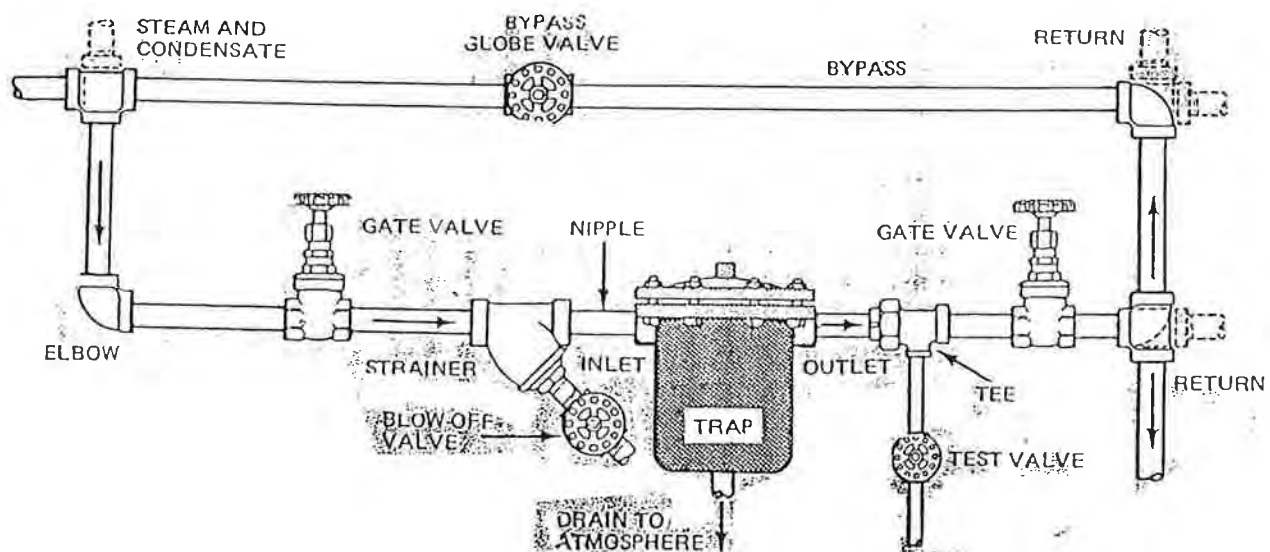

Fig. 1-1. Valves and piping in a low-pressure steam line.
1.11 Before looking at more involved networks of pipes, let's first consider one section of a typical system. Figure 1-1 shows a common arrangement of pipes, valves, and fittings in a low-pressure steam line. This part of the system happens to be built around the steam trap (to be defined later). The valves control the flow of steam through the piping. The fittings connect the sections of pipe. In an actual installation, the length of piping between valves is much greater, depending on the application and its requirements.
1.13 To trace the steam line, begin at the upper-left corner of Fig. 1-1, where you will see a fitting that connects three pipes. (The dotted lines show where a fourth pipe could be added, if necessary.) This is where the steam and condensate enter this section of the system.
1.17 When the trap in a functional system similar to that in Fig. 1-1 must be disassembled for inspection or repairs, the globe valve is first opened to let the steam bypass the trap. Then the gate valves are closed to block passage through the trap.
1.19 The system-within-a-system represented by Fig. 1-1 shows one part of a more extensive piping system that carries steam from a boiler to a steam turbine, which generates electricity. The boiler and the turbine themselves are not parts of the piping system. The fittings, valves, and trap are, however, necessary to the operation of the system.
1.32 Well-designed piping systems have various features to minimize maintenance and wear-and-tear. One such protective feature is the blow-off valve which you saw in the steam line in Fig. 1-1. The valve can be opened to blow out any foreign material in the line.
1.37 Remember that the purpose of the steam trap shown in Fig. 1-1 was to collect condensed hot water while keeping the steam in the system. Other components include devices to regulate pressure. Some are protective devices such as valves that automatically open to vent fluid out of the pipe when the pressure in the lines gets too high. In lines carrying liquids you will often see relief valves, preset to open at a given pressure. When they open, liquid flows through the valve and specially provided piping to relieve the excessive pressure in the main pipeline. Protective devices are designed to operate automatically.